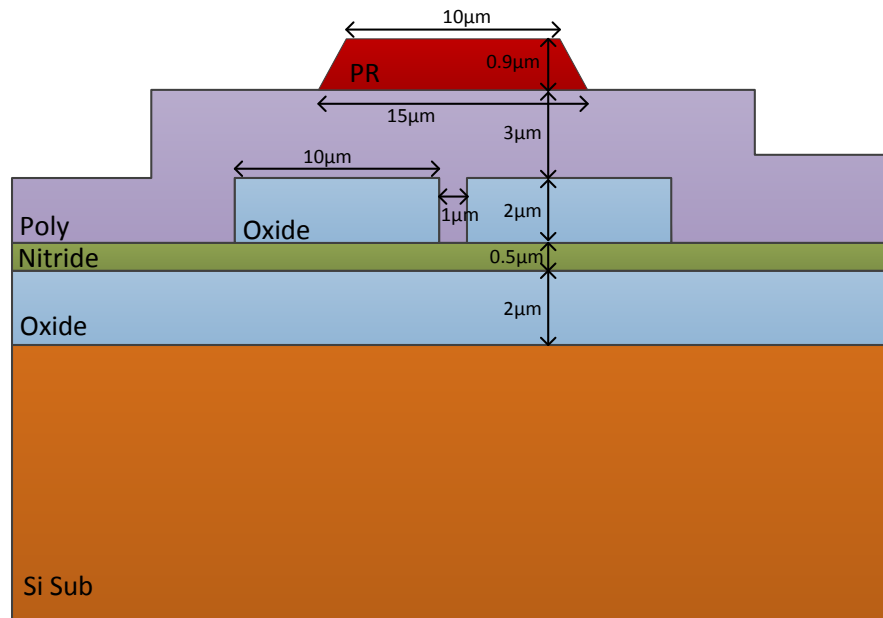

Figure PS2.5-1
5. You are given a wafer with the cross-section shown in Figure PS2.5-1 and intend to release etch the structure, i.e., to leave only the polysilicon structure atop the blanket nitride/oxide layer. To perform the release, you first dry etch the polysilicon in an RIE system with etch rate and selectivity given in Table 2.5-1. You then wet etch the oxide layer in a completely isotropic etchant with characteristics given in Table 2.5-2.